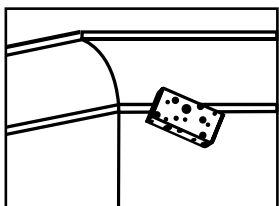

FIGURE 67
- Wipe down the cornice with a wet sponge [Figure 67].